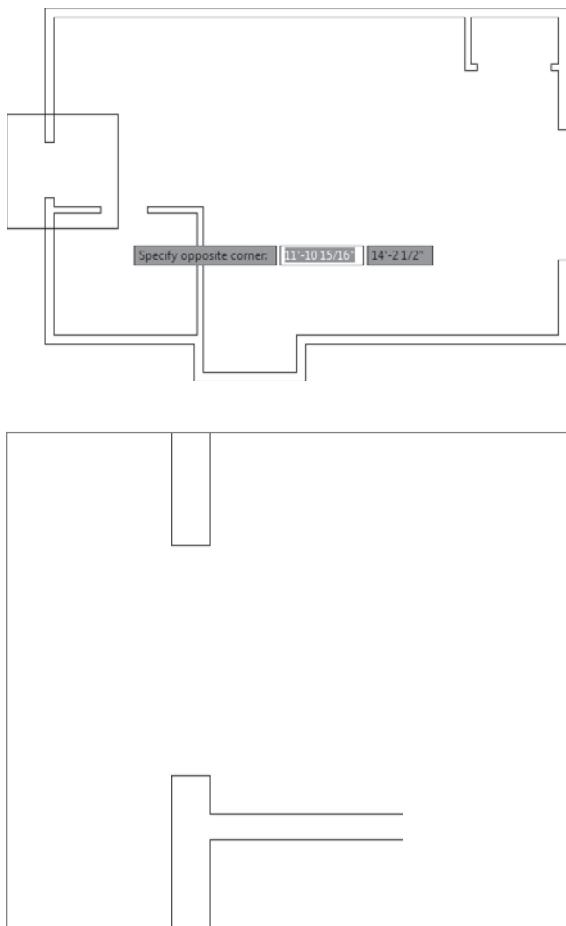

FIGURE 4.43 Forming a zoom window at the back door opening (top) and the result (bottom)
6. Pick two points to form a window around the back doorway opening, as shown in Figure 4.43 (top).
The view changes, and you now have a close-up view of the opening (see Figure 4.43, bottom). You'll draw the door in a closed position and then rotate it open.